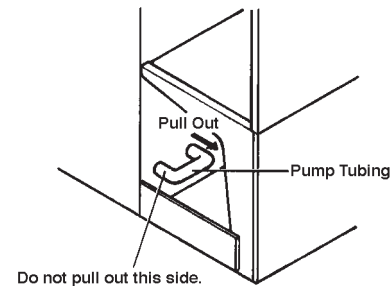

Fig. 4
5) Remove one end of the pump tubing (see Fig. 4). Drain the water tank. Replace the pump tubing in its correct position.